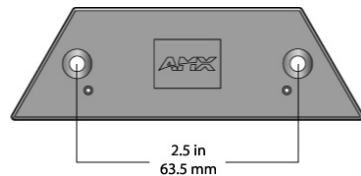

FIG. 2 BASE PLATE MOUNT CENTER TO CENTER
1. Use the base as a template to mark two hole locations on the wall. The holes should be 2.5-inches (63.5 mm) apart center to center as shown in FIG. 2.